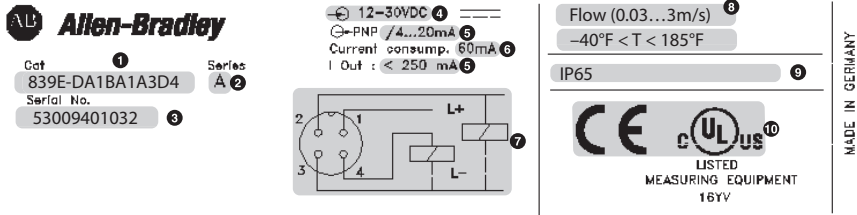

Figure 1 Explanation of the nameplate — see Table below
- Specifications and ratings may differ from those shown in Figure 1, depending on particular model. Refer to product nameplate or catalog for actual ratings and specifications.